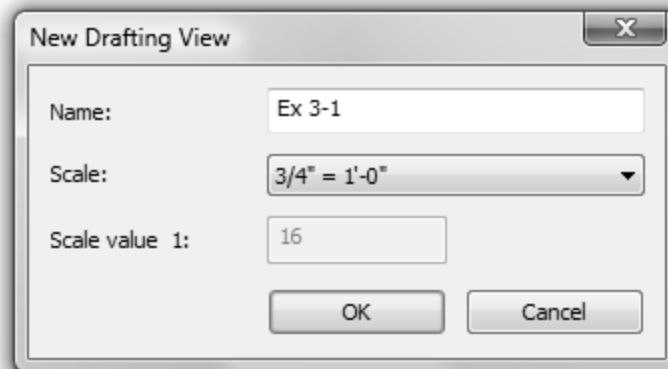

Figure 3-1.3 New Drafting View dialog
6. In the *New Drafting View* dialog box, type **Ex 3-1** for the *Name* and set the *Scale* to **3/4" = 1'-0"** by clicking the down-arrow at the right (Figure 3-1.3).